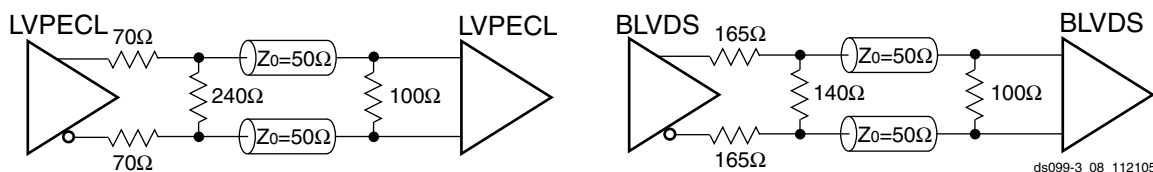

Figure 34: External Termination Required for LVPECL and BLVDS Output and Input
5. Each LVPECL_25 or BLVDS_25 output-pair requires three external resistors for proper output operation as shown in Figure 34. Each LVPECL_25 or BLVDS_25 input-pair uses a 100 Ω termination resistor at the receiver.